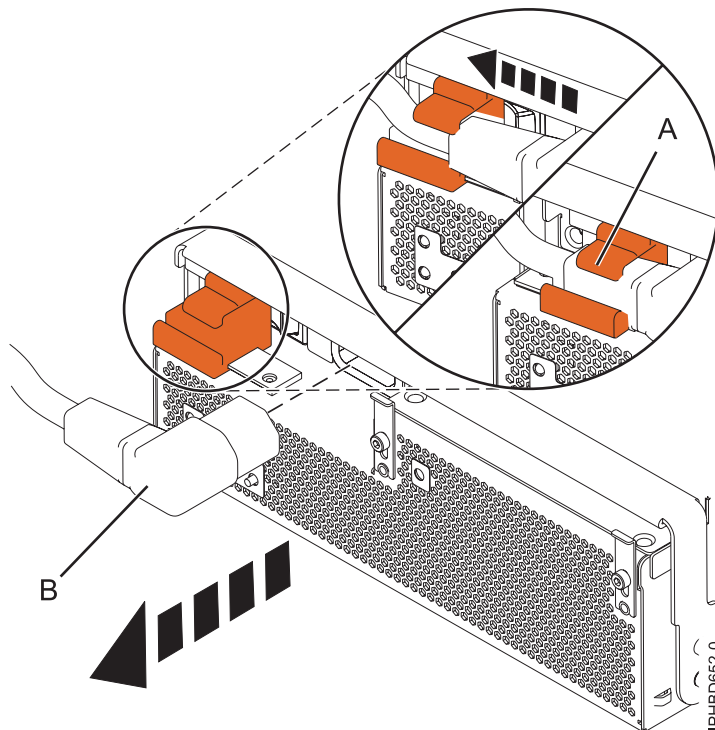

Figure 13. Disconnecting the power cable from the front of an expansion unit
5. For the power supply that you want to remove, slide the cable retention bracket to the open position (A), and then disconnect the power cable (B) as shown in Figure 13. By moving the bracket to the open position, you turn the power supply off.